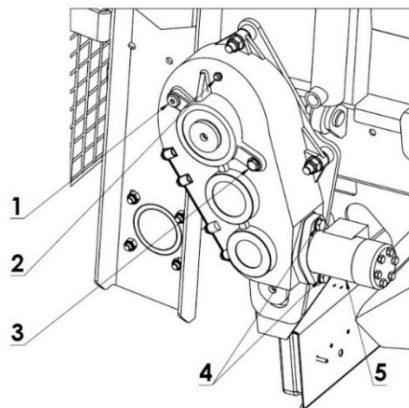

Figure 25 Oil level control points in the gear of the floor conveyor:
To drain oil from the gear of the floor conveyor (Figure 25), undo the screws (3) and pull out the hydraulic motor (4). Fill the gears with new oil through the oil filler (1), until oil becomes visible in the sight glass (3). If oil is visible in the middle of the sight glass, its level is correct.